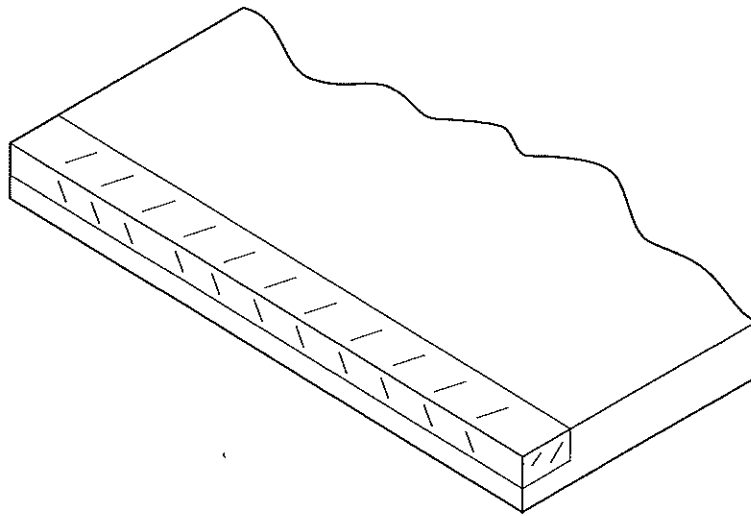

Fig. 11
- (c) A lapped joint is used to join the sides together at each corner. Fig. 11 shows part of the lapped joint marked out.
- (i) Indicate clearly, on Fig. 11, **one** line that would be marked out using a marking gauge and **one** line that would be marked out using a cutting gauge. [2]